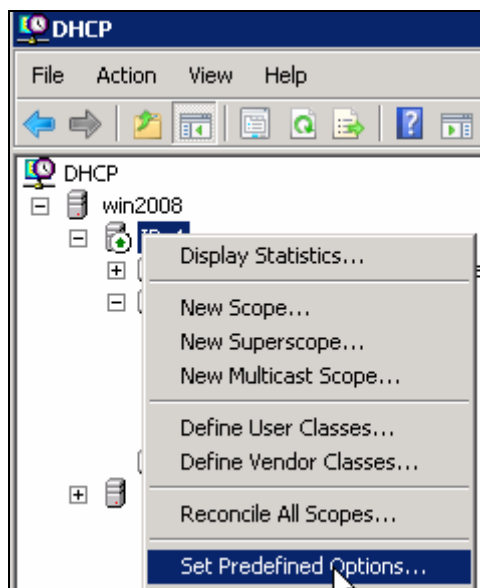

Figure 4-24: Set Predefined Options
2. Select the Set Predefined Options (Figure 4-24).